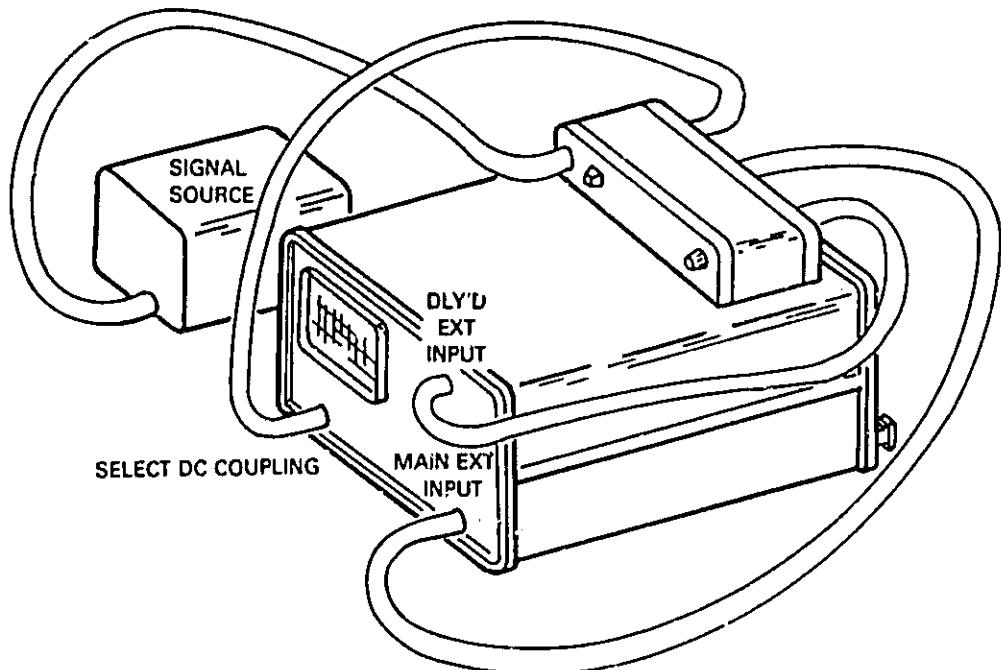

Figure 2. TV Sync Hookup
- a. Connect TV signal generator to TV INPUT 75Ω make the following connections as shown in figure 2 and set oscilloscope controls as follows: